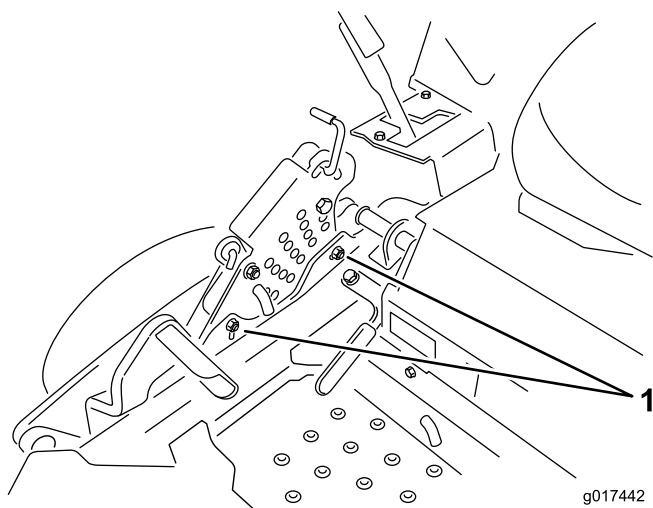

Figure 74
12. To adjust the single point system, loosen the two bolts at the bottom of the height of cut plate. Refer to Figure 74.
14. Tighten the two bolts at the bottom of the height of cut plate (Figure 74). Torque to 27-33 ft-lb (37-45 N-m).